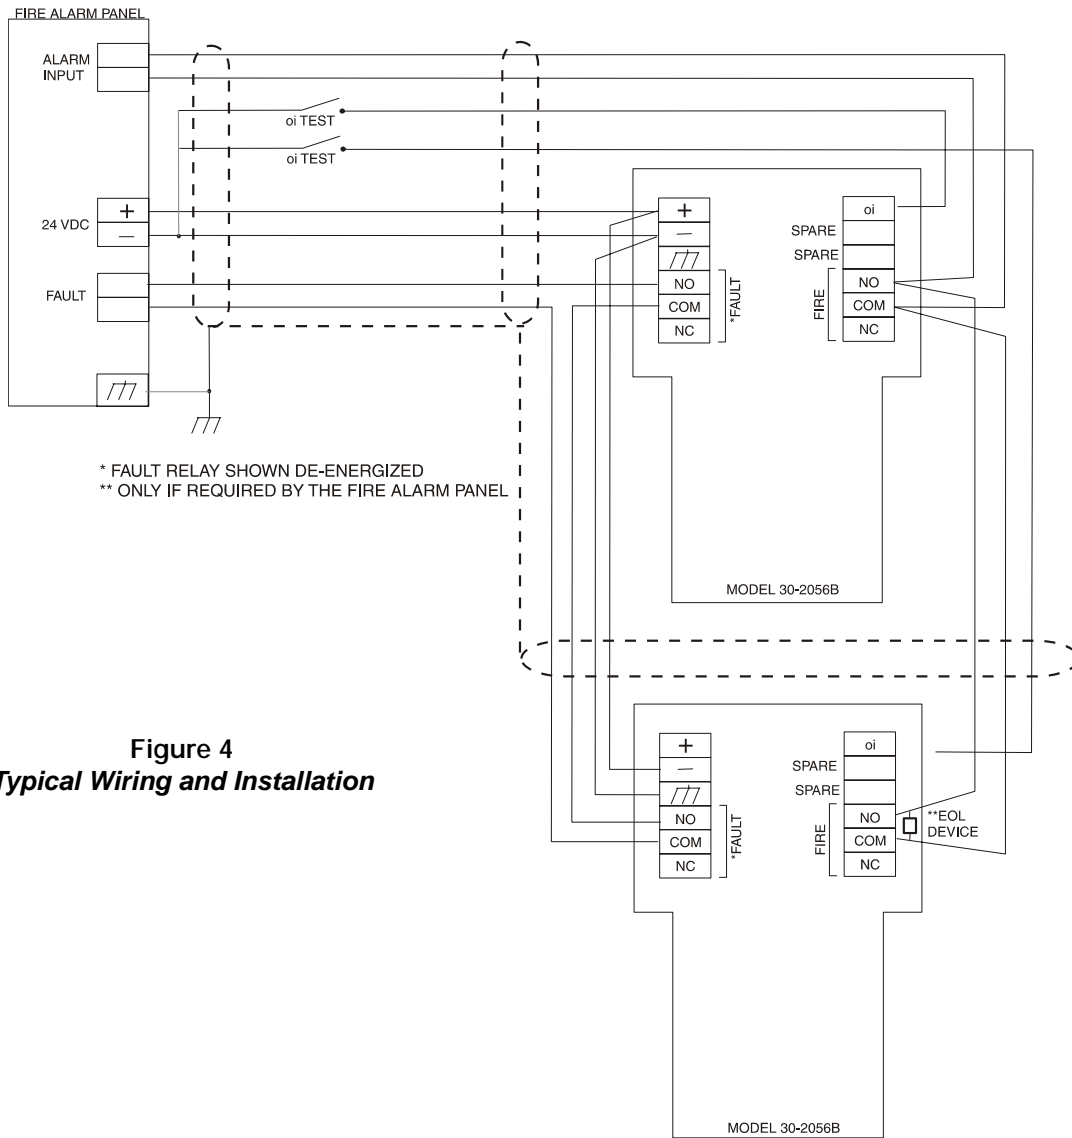

Figure 4
2. Connect the external wiring to the detector as illustrated in **Figure 4**.